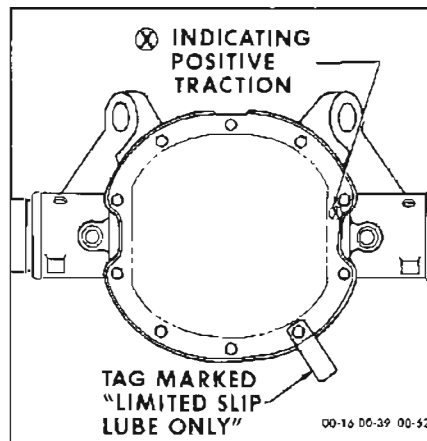

Figure 00-16—Positive Traction Identification
**Positive Traction Differential Rear Axle** - Identified by embossed tag attached to the axle cover lower bolt stating "Use limited slip differential lube only." Check lubrication level after allowing time for lubricant to settle. Clean the surrounding area before removing filler plug. Level should be maintained at filler plug opening to 1/4" below by adding lubricant conforming to Buick Specification #723. See Figure 00-16.